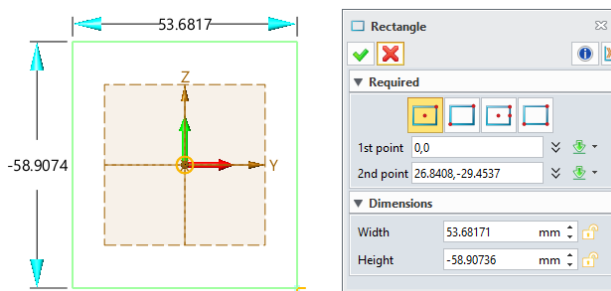

Figure 131 Drawing a Rectangular Profile
STEP 04 Draw a rough rectangular profile, as shown in Figure 131.